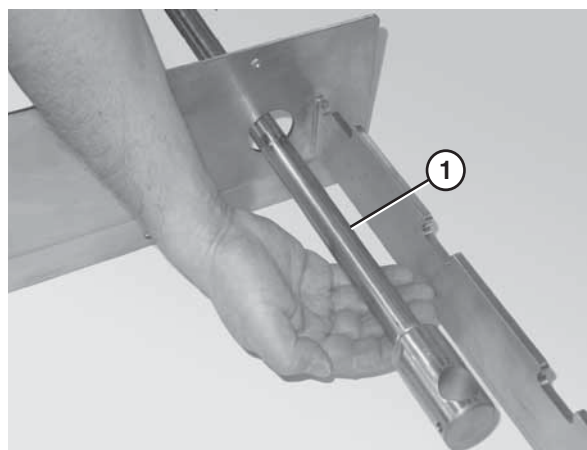

Figure 26
1. Slide the tip up shaft (Figure 26, item 1) through the designated slots in the frame.